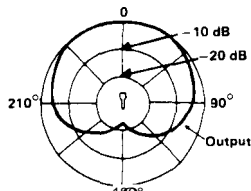
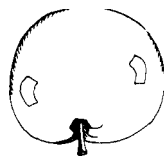

FIGURE 7-Cardioid Polar Pattern
FIGURE 8-Cardioid Pickup Pattern
**Unidirectional Pickup Pattern.** The most common unidirectional microphone is called a cardioid. Cardioid is a mathematically descriptive term that denotes the geometric form of the pickup pattern. The pattern happens to be crudely heartshaped (hence the term "cardioid"). Side pickup is moderately reduced in a cardioid microphone and rear pickup is dramatically reduced. The polar pattern of a cardioid microphone is shown in Figure 7. The apple shown in Figure 8 would be a good three-dimensional model of the cardioid pattern with the stem representing the microphone.